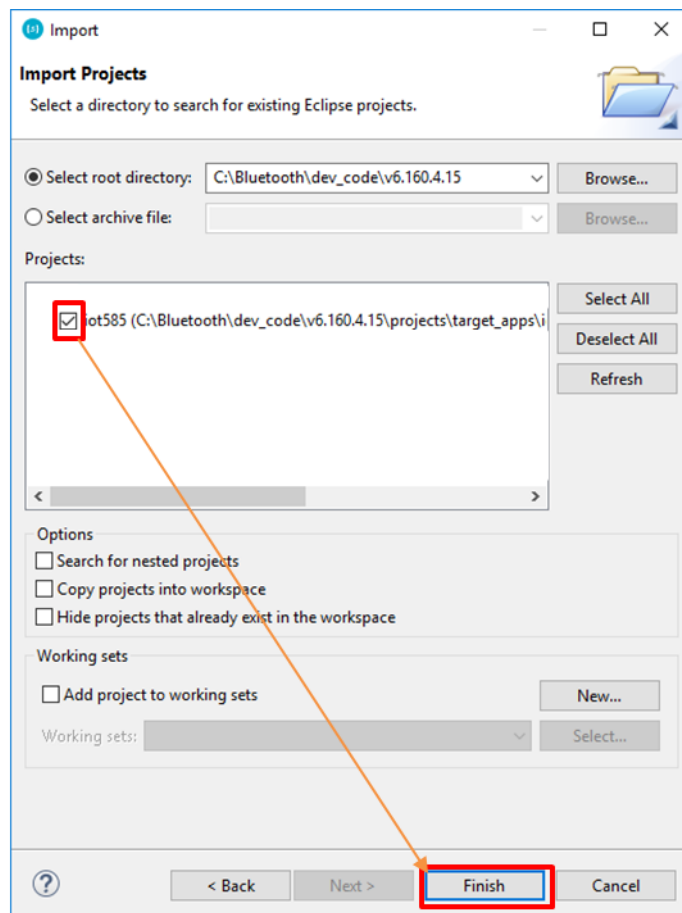

Figure 14: Selecting the iot585 Project
9. A list of projects compatible with Eclipse will appear, and users should only select the **iot585** project by ticking the selection box (Figure 14) and then press "**Finish**".